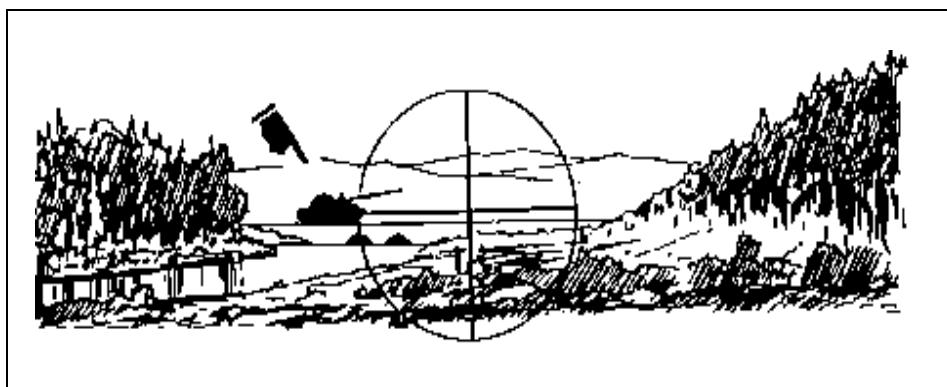
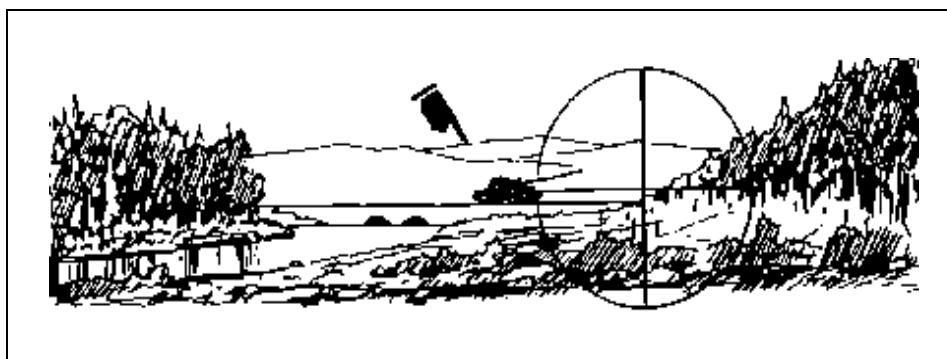

Figure 8-17. Target unable to reach cover in time.
Figure 8-18. Target able to reach cover in time.
- b. If the gunner places the cross hairs center of mass and fires at once, the target will not reach the protection of the hill in time (Figure 8-17). If the gunner does fire—the target will reach the protection of the hill before the missile hits (Figure 8-18).